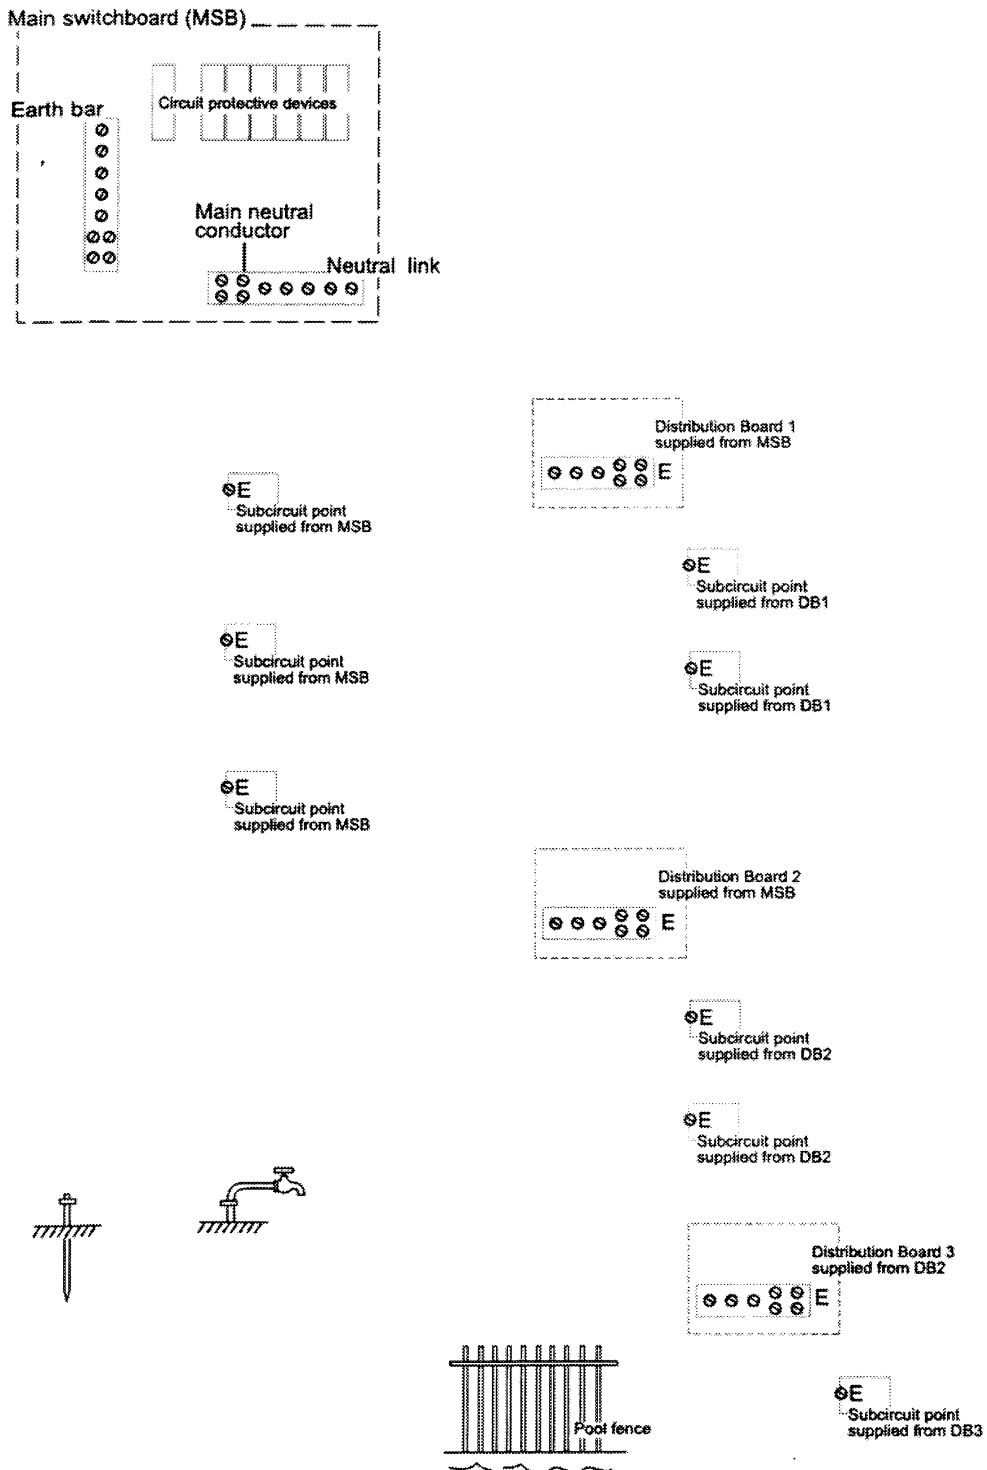

Figure 3.2 Earthing arrangements 2
2. In the electrical installation represented in Figure 3.2 show an acceptable arrangement of earthing by drawing the necessary protective earthing and equipotential bonding conductors and writing on each conductor the compliant Clause No.